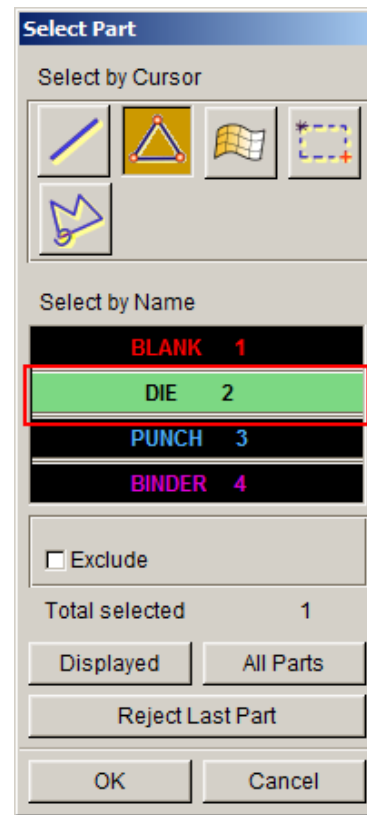

Figure 1.16 Select Part
7. Select the DIE button from the popped Select Part interface. See Figure 1.16.